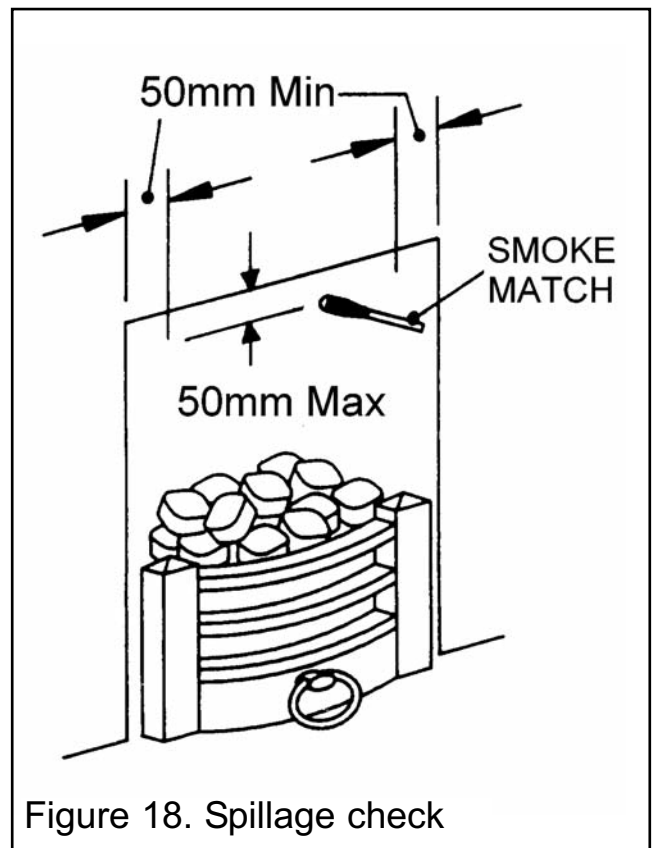

Figure 18. Spillage check
- A spillage check must be made before leaving the installed appliance with the customer. Make this with all the ceramic fuel effect pieces and firefronts / castings are in position (See figure 18).